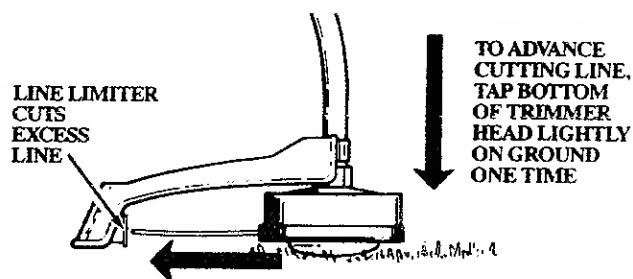

Figure 10
- Tap the bottom of the trimmer head lightly on the ground one time. See Figure 10. Approximately 2 inches of line will be advanced with each tap.